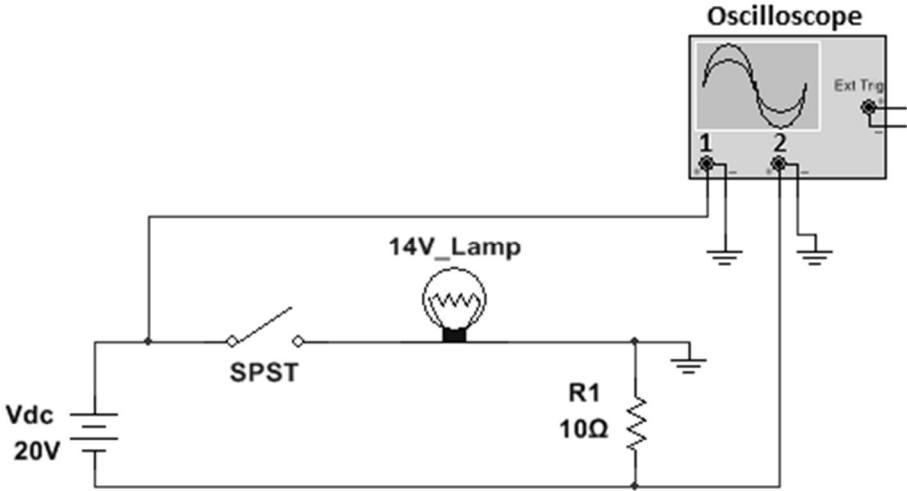
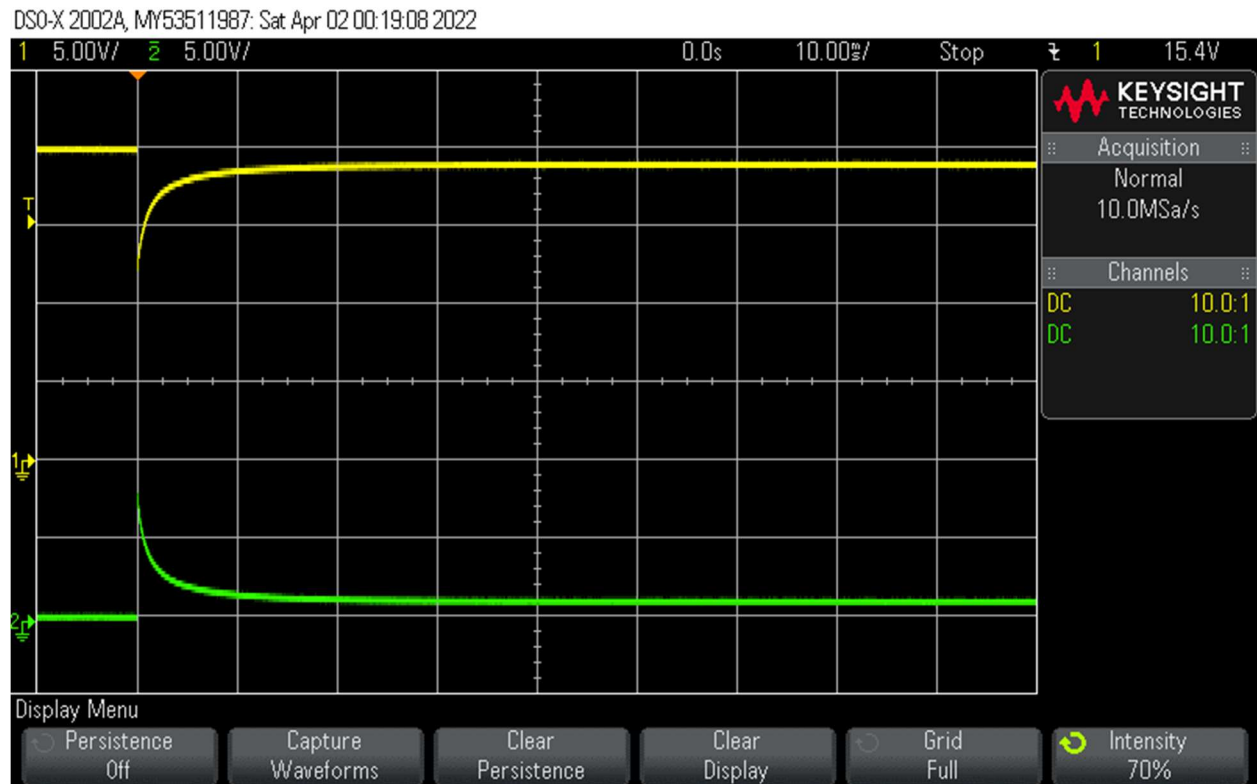

Figure 7-1 Lamp circuit setup (Note: invert channel 2 readings on oscilloscope)
Figure 7-3 Lamp voltage and current vs. time, showing in-rush current and reduced voltage during in-rush
Circuit Explanation: The circuit in Figure 7-1 has a 10 Ω current-sensing resistor in series with the bulb. The negative side of the power supply is allowed to float while the node between the lamp and the sensing resistor is grounded. In this way lamp voltage and current can be simultaneously observed. By putting the oscilloscope in single-shot mode (directions in the procedure section) and triggering on the rise of the Channel 1 voltage, the in-rush of current, proportional to the voltage across the sensing resistor, can be captured as the switch is thrown.
2. For the circuit in Figure 7-1 and the voltage curves of Figure 7-3, obtained from that circuit, determine the voltage across the lamp and the voltage across the 10Ω resistor; the steady-state current is simply the voltage across the 10Ω resistor divided by 10Ω . Using the above values determine the steady-state resistance of the lamp.
1. Construct the circuit of Figure 7-1. Initially put the SPST switch in the open position.
3. Connect Channel 1 and Channel 2 of the oscilloscope as indicated in Figure 7-1.
9. Press the single sequence key, and throw the SPST switch to its ON position. The sweep of the oscilloscope should be triggered once, and a new trace displayed (see Figure 7-3 for a typical display).